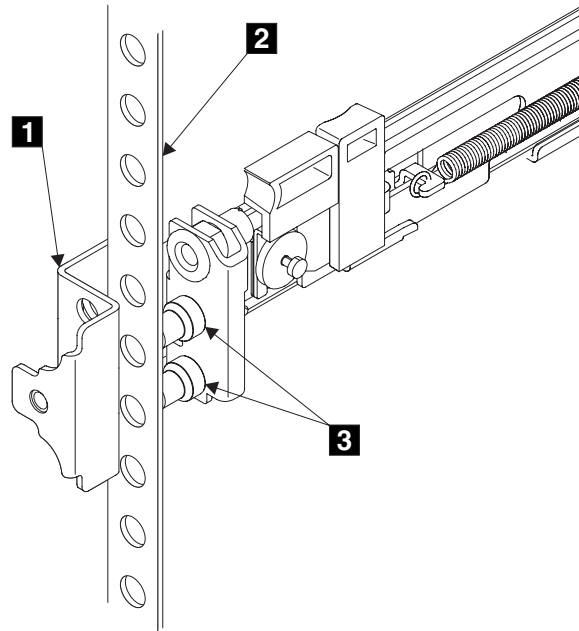

Figure 90. Installing the front end of the rail
6. Place the front end of the left rail in the rack cabinet. Align the top of the front bracket **1** (Figure 90 on page 363) with the required EIA marking that